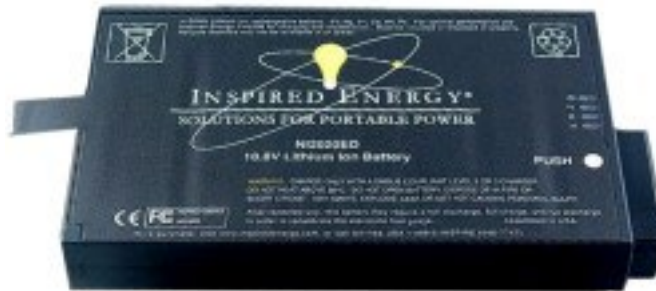

Figure 5: Lithium Ion Battery Pack w/BMM (Courtesy Inspired Energy, LLC)
The internal battery pack consists of (9) internal Li-Ion cells assembled in a 3 series/3 parallel (3S-3P) configuration and packaged with an onboard Battery Management Module (BMM) as illustrated in Figure 5. The technical specifications are provided in Table 7.